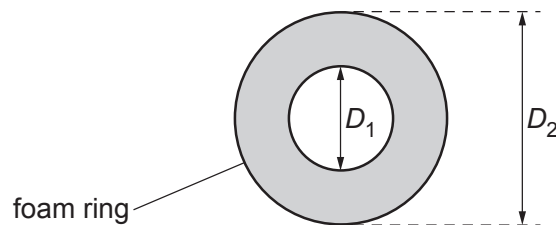

Fig. 2.2
- Using the metre rule, measure and record the inner diameter D_1 and the outer diameter D_2 , as shown in Fig. 2.2.